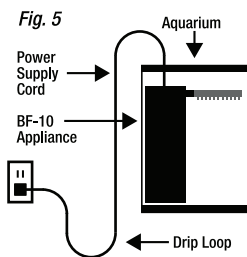

Fig. 5
- To avoid the possibility of the appliance plug or receptacle getting wet, position tank/aquarium stand and tank to one side of a wall-mounted receptacle to prevent water from dripping onto the receptacle or plug. A "drip loop," shown in figure 5, should be arranged by the user for each cord